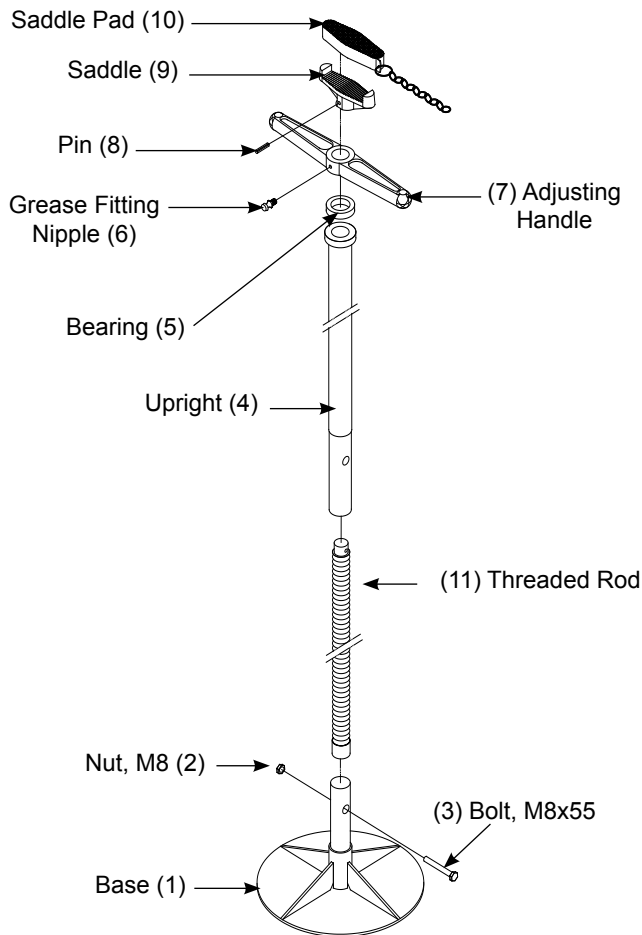

Figure 1 - 31500 Nomenclature
1. Make sure all parts are present (see Fig. 1 & 2). If any parts is missing or damage, do not attempt to assemble, install or operate the product. Contact Customer service.
2. Begin assembly by inserting smaller end of threaded rod (11) through the bottom of upright (4), allowing small end of threaded rod to project out of the top of upright.
3. Place bearing (5) over the threaded portion, then spin the adjusting handle (7) clockwise onto the threaded rod.
4. Saddle (9) can now be fastened by inserting the pin (8) through saddle & threaded rod (11).
5. a. For Model 31500 (see Fig. 1):
Parts List: *(see Fig. 1 & 2 for reference number.)*